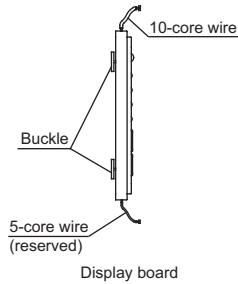

Fig. 16 —LED Display Panel
1. The display panel has buckles on the bottom that are used to secure it to the control box. See Fig. 16.